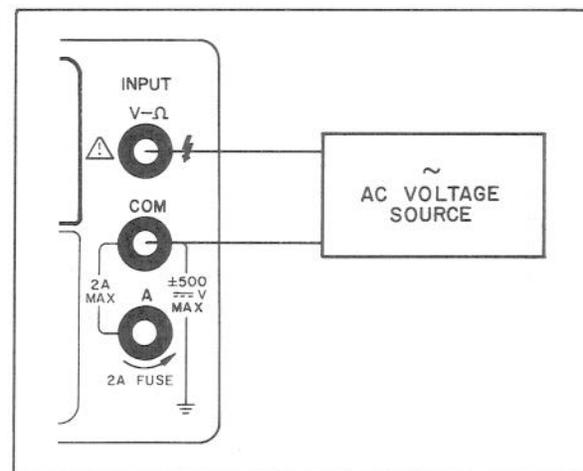

Figure 3-5. AC Voltage Measurement.
- Connect test leads from the Multimeter $V\Omega$ (high) and COM (low) terminals to the voltage under test as shown in Figure 3-5.